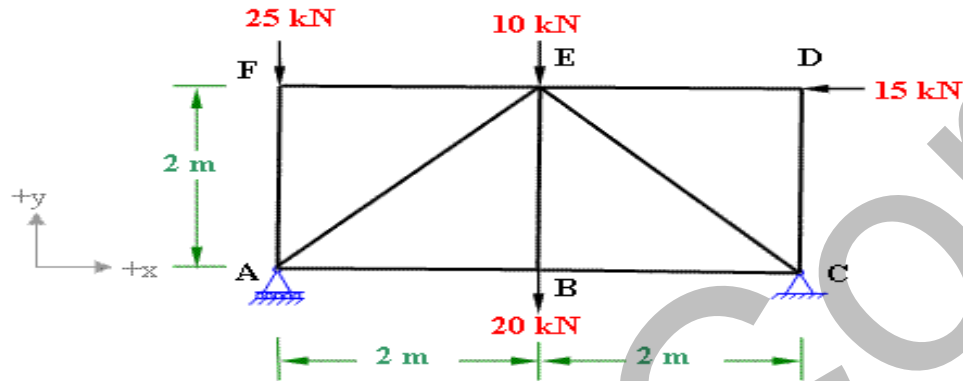

Figure -2
6. Calculate Horizontal deflection and Vertical deflection at point D in the Truss (14M) shown in figure -2